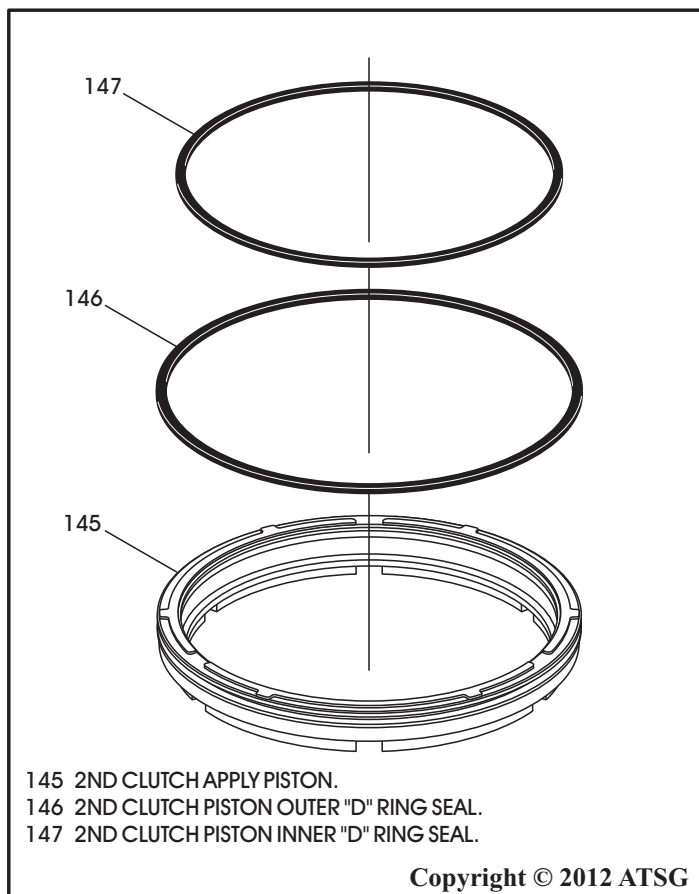

Figure 195
1. Install new inner and outer "D" ring seals onto the 2nd clutch piston, as shown in Figure 195, and lube with a small amount of Trans-Jel®.